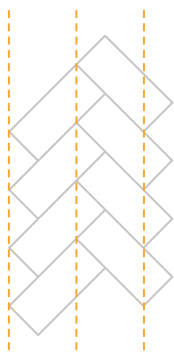

Figure 2: Initial row with reference lines.
- ❗ Be very careful in laying the initial row correctly and at a right angle, as this is crucial for the rest of the installation process and the end-result. Use reference lines to maintain the direction, as minor inconsistencies quickly spread to the rest of the floor. See Figure 2.